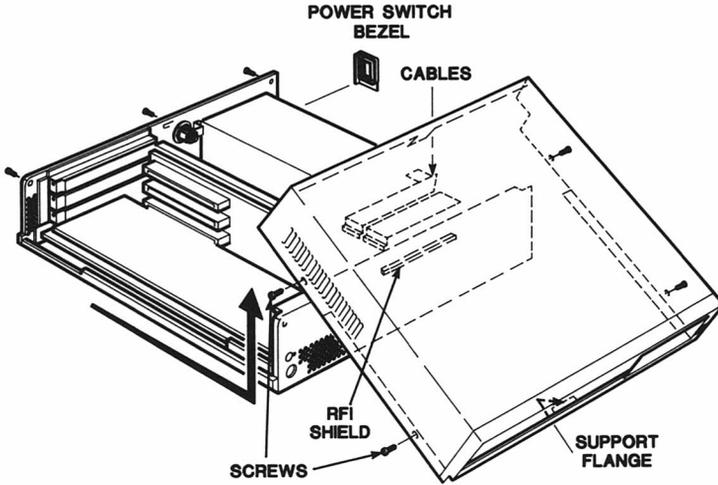

Figure 4-1. Cover Removal
4. Refer to Figure 4-1 and remove and save the seven screws that secure the cover to the computer.